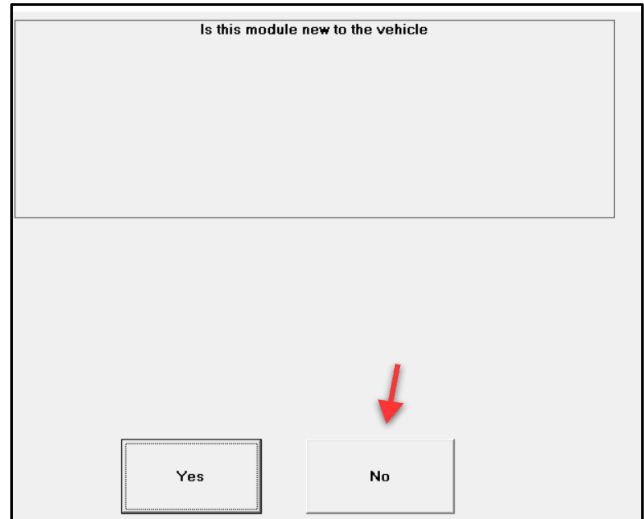

Figure 7
12. In the next two pop-up windows, click “No” (refer to Figure 7).